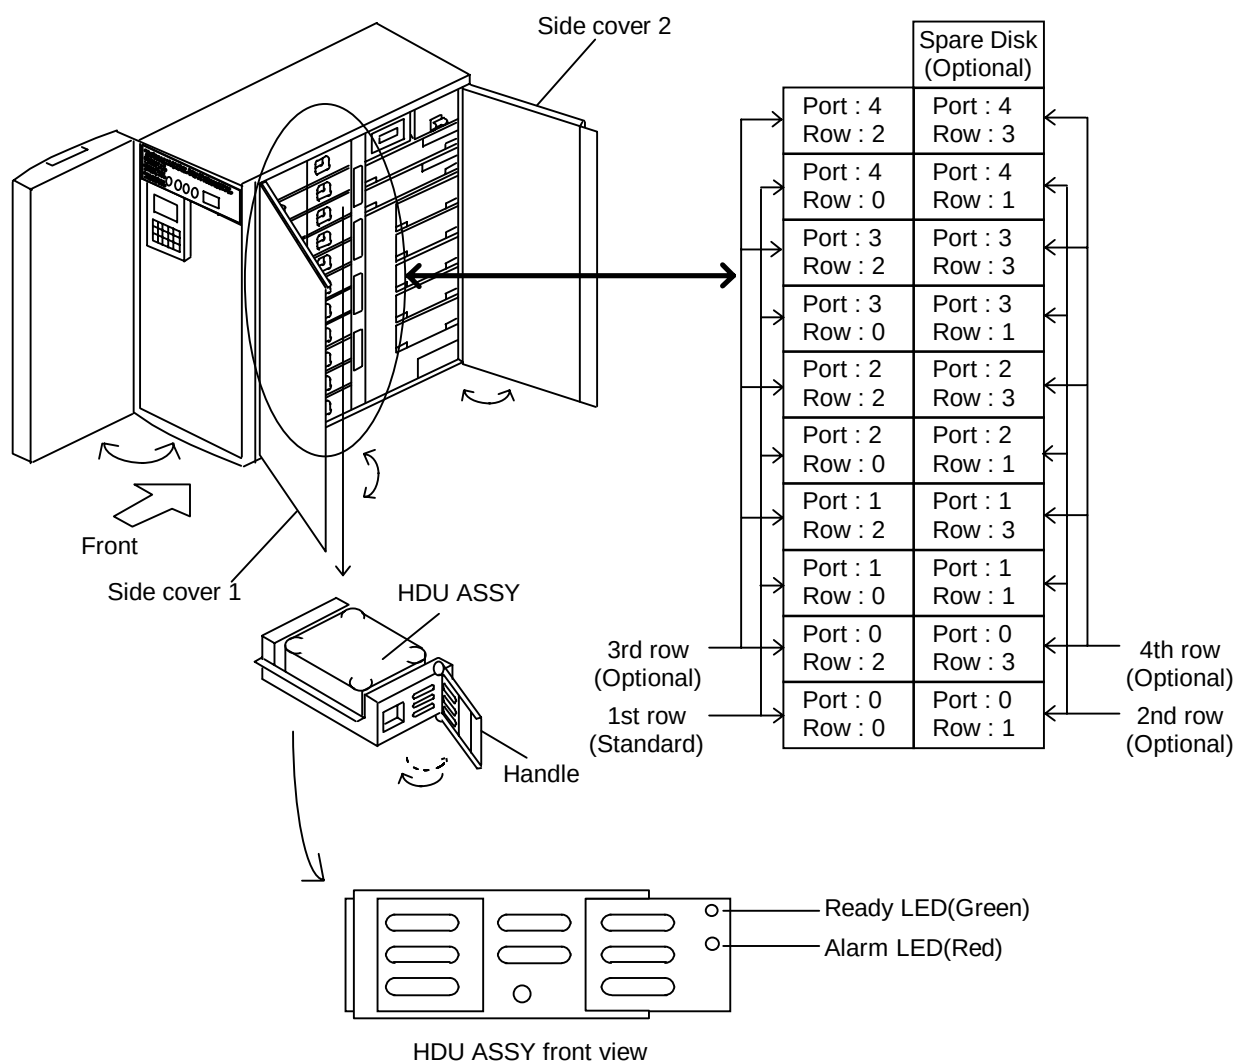

Figure 2.9.1 Installing the HDU ASSY
- (2) Open the front cover and the side covers.
(3) Remove the old HDU ASSY and set the new HDU ASSY. (See Figure 2.9.1 in CK-OPTION0210.)
(4) Set the DIP switches on the CTL ASSY as described below.